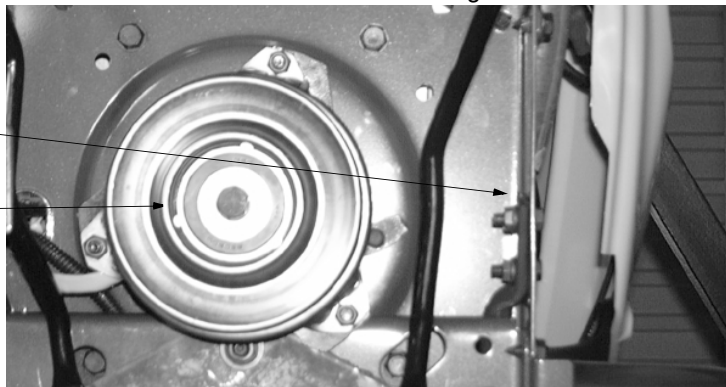

Figure 2
3. The Bracket will mount to the left frame rail directly across from the electric PTO clutch. See Figure 2